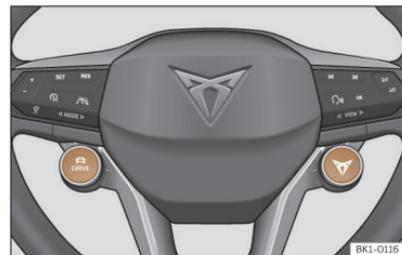

Fig. 117 Multifunction steering wheel: DRIVE and CUPRA buttons for selecting and changing the driving profile.
- **OR:** Press the  button on the multifunction steering wheel >>> **Fig. 117** to activate the CUPRA driving profile.
- **OR:** Repeatedly press the  button on the multifunction steering wheel >>> **Fig. 117** to switch between driving profiles.